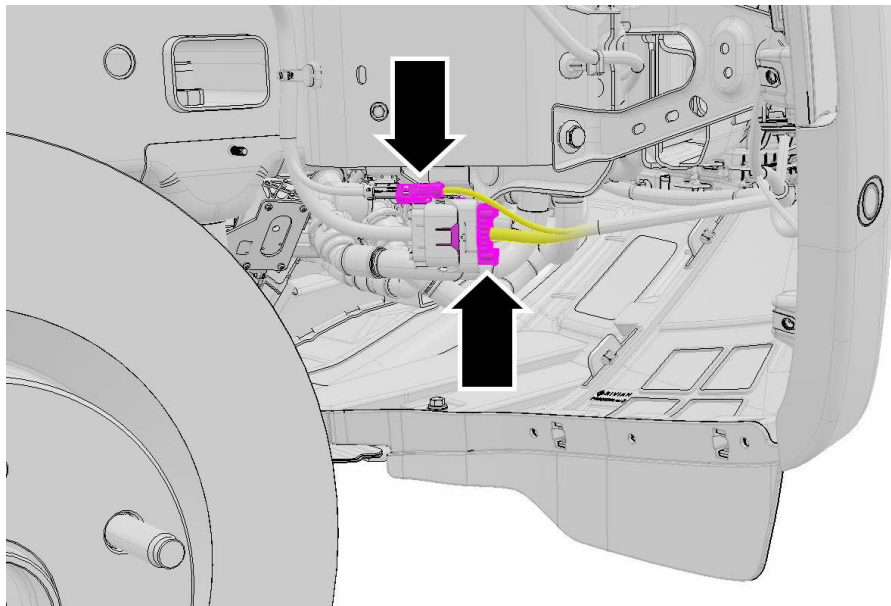

**Figure 13**
1. On both sides of the vehicle remove the bolt securing the fender to the fascia. (Figure 13)